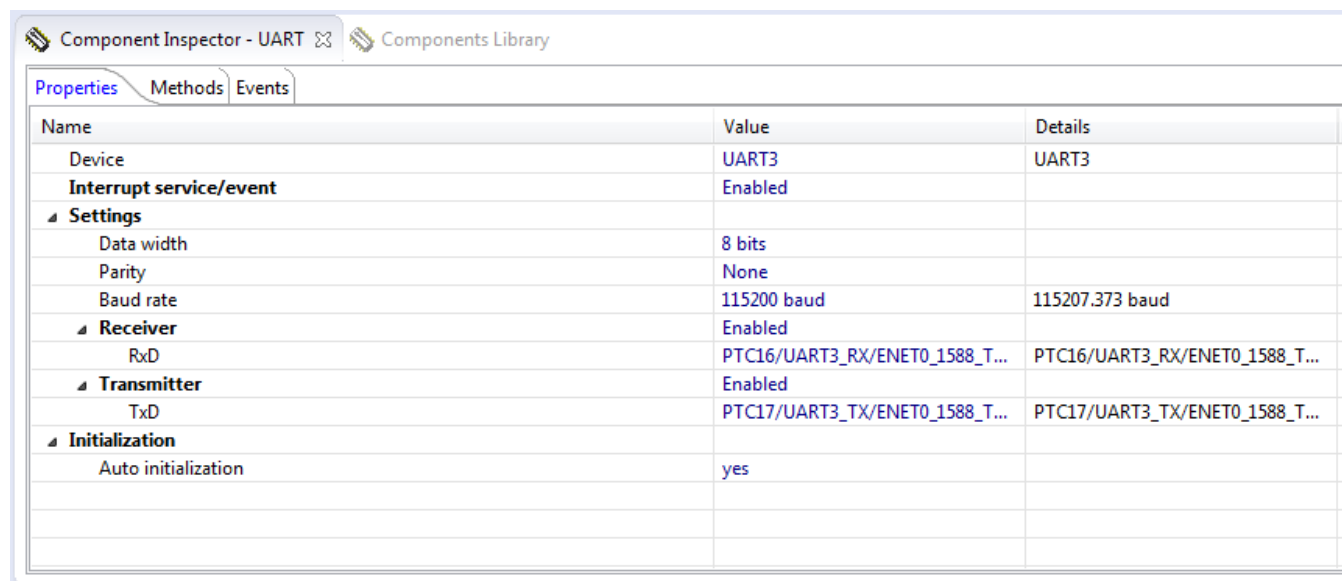

Figure 14. Component Inspector - UART panel
- c. Under the **Properties** tab, of the **Component Inspector - UART**, select the correct UART and its correct Tx and Rx pins for the board you are using according to Table 2. See Figure 14.